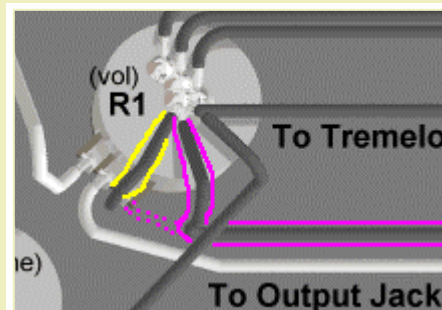

Figure 3a
- Remove the wire that originally went to the negative (ground) side of the output jack. In figure 3a this wire is outlined in violent violet. Figure 3a shows typical Fender™ wiring. The dotted violet lines show another common attachment point for this wire.
- Remove the wire connecting the low terminal of the pot to shield ground. This wire is outlined in yellow in figure 3a above. Note, sometimes this wire is implemented simply by bending the negative terminal of the pot back against the shell and soldering it there. In that case you "remove" the wire by desoldering the terminal and bending it back to its normal location. Remove solder from the hole in the pot terminal, so you can put a wire through the hole later.